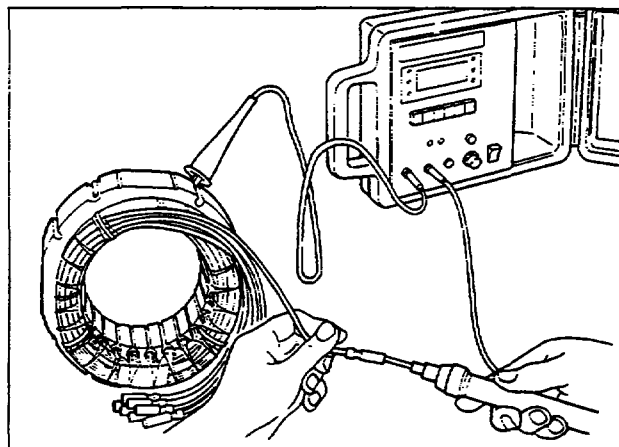

Fig. 11-3
- (3) Check the insulation resistance between stator core and each stator lead using a Dr. Robin generator tester in megger tester mode or a megger tester. (Fig. 11-3)